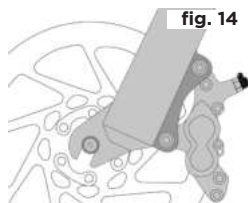
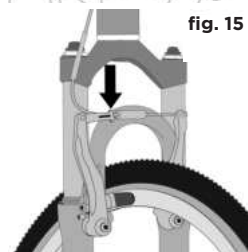

fig. 14
fig. 15
(1) If your bike has rim brakes, disengage the brake's quick-release mechanism to increase the clearance between the tire and the brake pads (See Section 4.C fig. 14 through 18).
(2) If your bike has rim brakes, disengage the brake's quick-release mechanism to increase the clearance between the wheel rim and the brake pads (see Section 4.C, figs. 14 through 18).
(3) On a derailleur gear system, pull the derailleur body back with your right hand.
3. Some bicycle brakes, such as disc brakes (fig. 14) and linear-pull brakes (fig. 15), are extremely powerful. Take extra care in becoming familiar with these brakes and exercise particular care when using them.
Most rim brakes have some form of quick-release mechanism to allow the brake pads to clear the tire when a wheel is removed or reinstalled. When the brake quick release is in the open position, the brakes are inoperative. Ask your dealer to make sure that you understand the way the brake quick release works on your bike (see figs. 15, 16, 17 & 18) and check each time to make sure both brakes work correctly before you get on the bike.